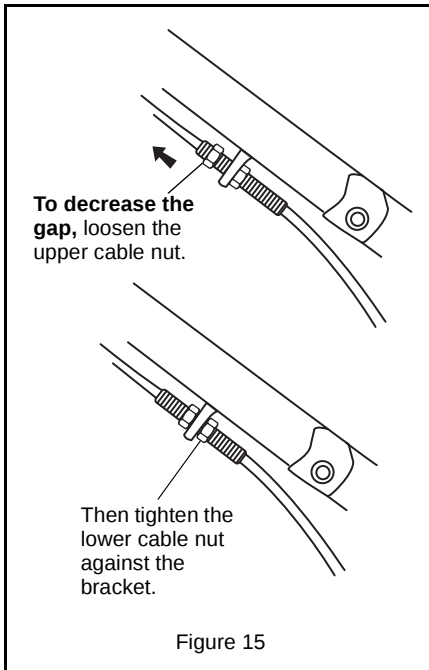

Figure 15
1. Loosen the upper cable nut on the wheel drive control cable, and then tighten the lower cable nut against the adjuster bracket. See Figure 15.